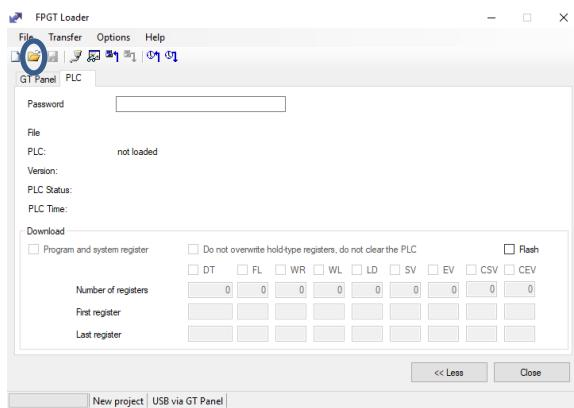
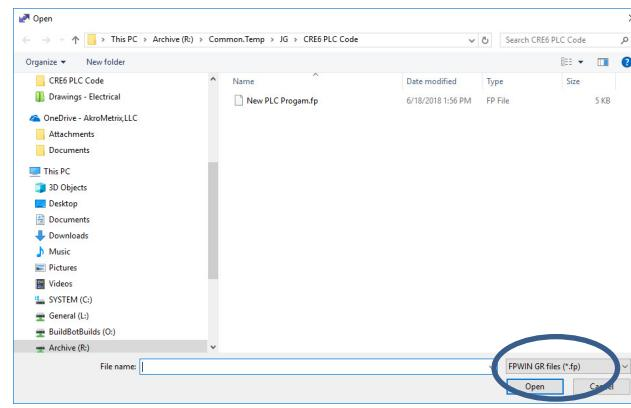

Figure 2
Figure 3
- 3) Click on the communication setting icon  . (Figure 2)
- 5) Click the PLC tab. (Figure 2)
- 6) Click the **Browse** button  (Figure 2) and change the file filter (Figure 3) to 'FPWIN GR files (*.fp)' to locate the new PLC code.